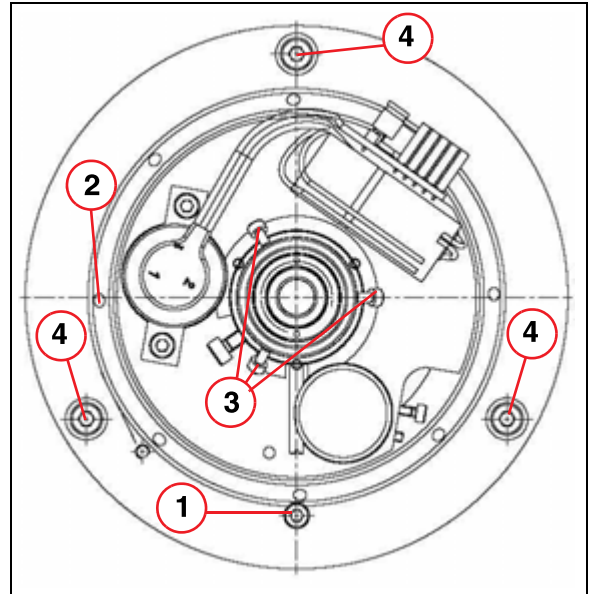

Fig. 26: Replacing the camera and I.I. optics
4. Loosen the clamping screw (1/Fig. 26 / p. 51).
5. Rotate the clamping ring (2/Fig. 26 / p. 51) a half rotation in the counterclockwise direction to loosen the camera. For this purpose, insert an Allen key (2.5 mm) into the hole (2/Fig. 26 / p. 51) and push the clamping ring in the counterclockwise direction.
6. Remove the 3 Allen screws (3/Fig. 26 / p. 51).
1. Remove the 3 M4 screws (4/Fig. 26 / p. 51).
- ⇒ When screwing in the 3 M4 screws (4/Fig. 26 / p. 51), make sure that the optic is pushed against the centering bolts.